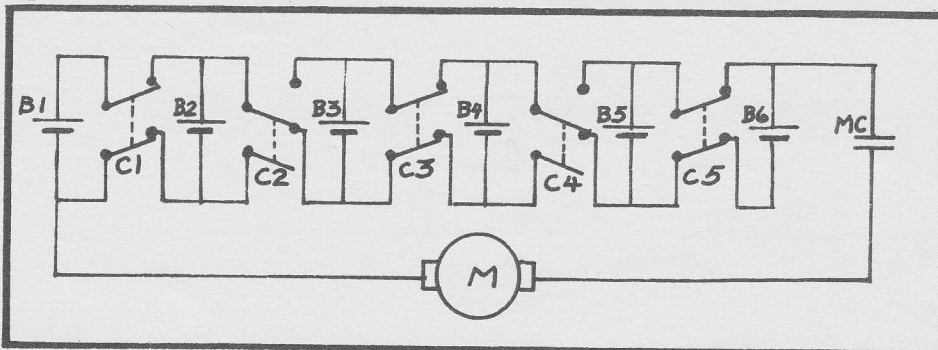
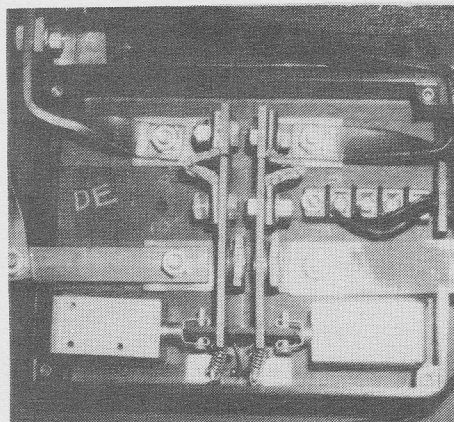

FIGURE 1. POWER CIRCUIT
FIGURE 4. CONTACTOR
Figure 1. shows a typical power circuit with a motor (M), a main contactor (MC), six batteries (B1-B6) and five double-throw contactors (C1-C5). Each battery shown can be several batteries permanently connected in series. Each contactor has two movable contact bars which make parallel connections when they are in the up position in the diagram. In the down position, the upper bar makes the series connection and the lower bar makes no connection. Contactors C1, C3 and C5 are shown in the parallel position. C2 and C4 are shown in the series position. Note that the two contact bars in each contactor are mechanically interlocked (indicated by the dashed line) to prevent the series contact and either parallel contact from being closed at the same time. If you trace the circuit you will see that, if that happened, one or more batteries would be short-circuited which would destroy the contactor, probably some cables, maybe some batteries and probably start a fire.
I could not find any commercially-available, double-throw contactors which would maintain contact in both positions, which would carry 400 amperes and were small and reasonably priced, so I made some myself. See Figure 4. They are built in phenolic instrument cases about 6 1/2" by 5" by 2" deep inside. The two vertical bars in the center carry the movable contacts. They are hinged near the top with heavy braid across the hinges. Each bar has a toggle spring at its lower end which maintains contact pressure in either direction. A solenoid in each lower corner pulls an insulated operating plate to the right or left to change the movable contacts to the parallel or series connection respectively. They are shown in the parallel direction. The operating plate is also the mechanical interlock which prevents a parallel and series contact from closing at the same time. One battery connects to the movable contacts, at the top, and the other to the stationary contacts, near the center, as shown in the contact arrangements in Figure 1.